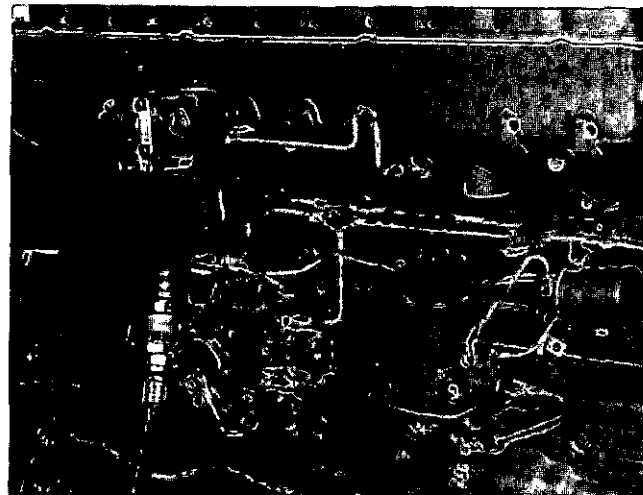

Fig. 0-23. Remove The Capscrews From The Aftercooler.
4. Remove the capscrews and lockwashers that hold the aftercooler to the engine, Fig. 0-23. Install two dowels, one at each end of the aftercooler, into capscrew holes to hold the aftercooler.